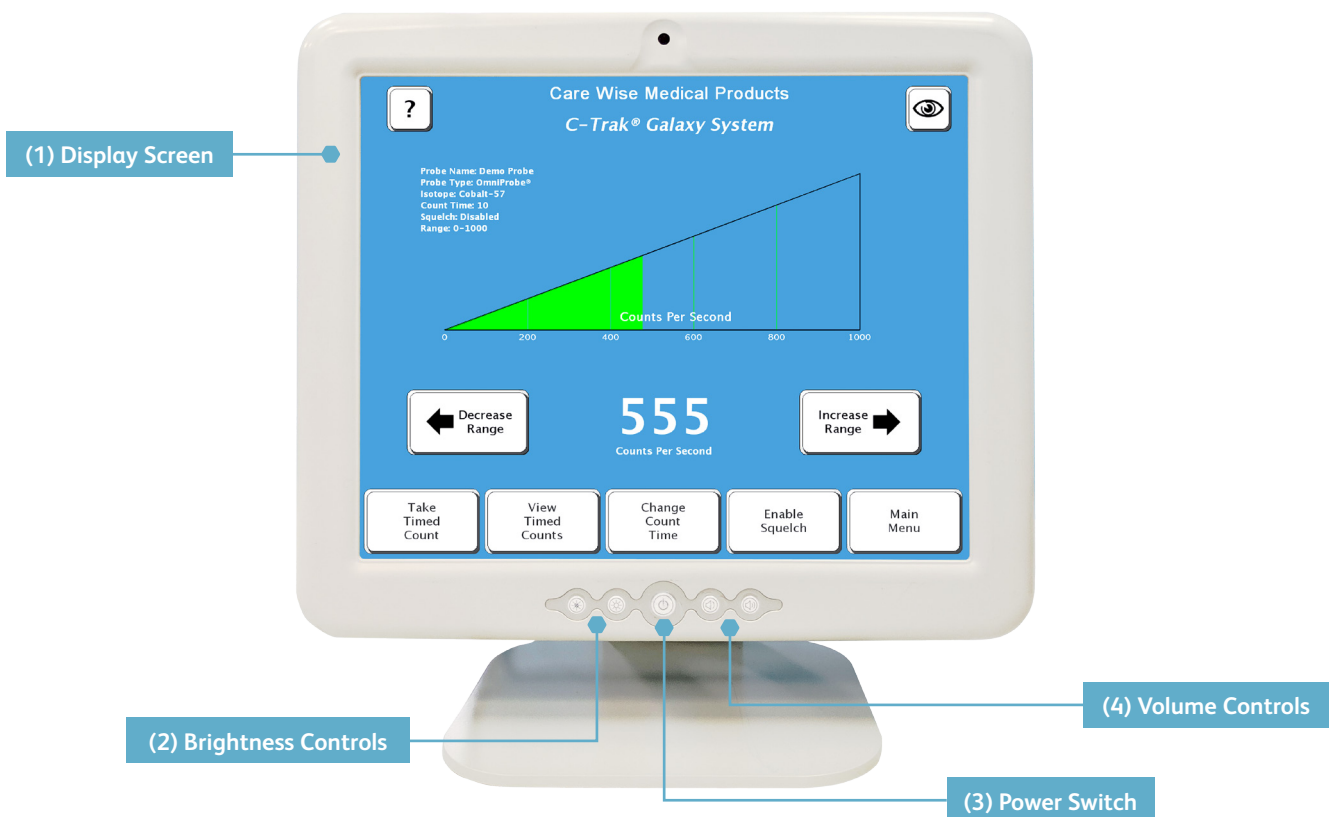

Figure 1 – Front Panel of C-Trak® Galaxy System
3. Set RANGE at desired setting based on the expected level of activity. A range of 0-100 is often preferred for the initial survey [Figure 1].
4. Check VOLUME setting to ensure a comfortable level [Figure 1].
2.1 Front Panel [Figure 1]